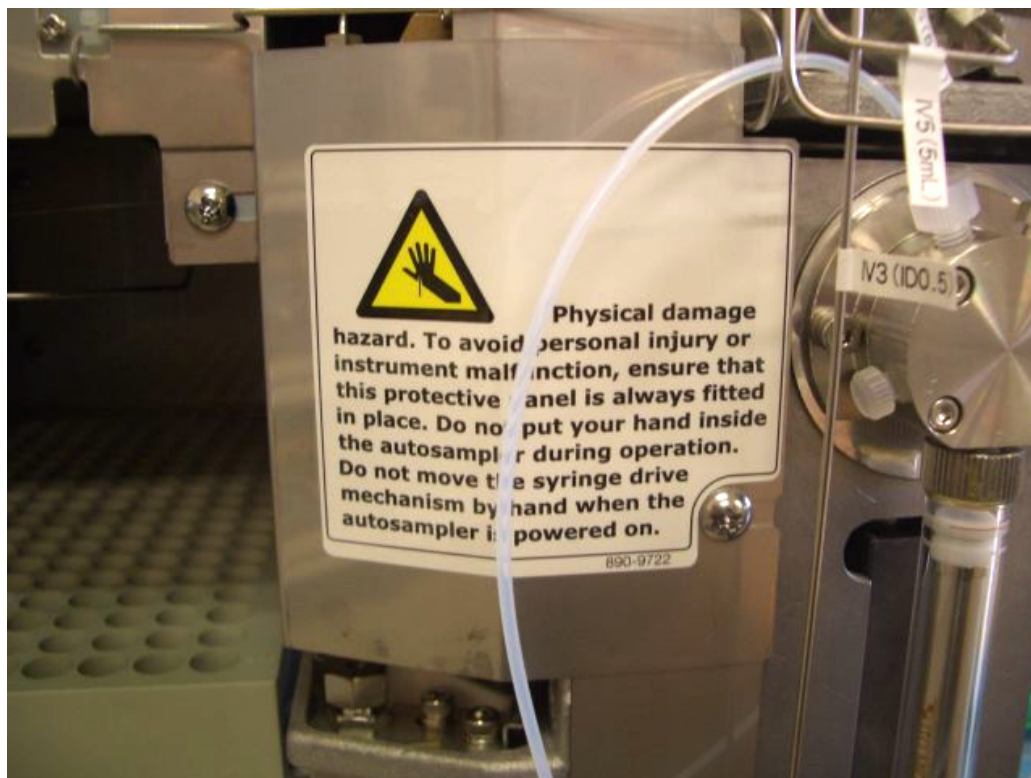

Figure 2: Autosampler Protective Cover
4. Loosen the screws and remove the protective cover from the front of the auto sampler (*Fig. 2*) by sliding the cover to the left.